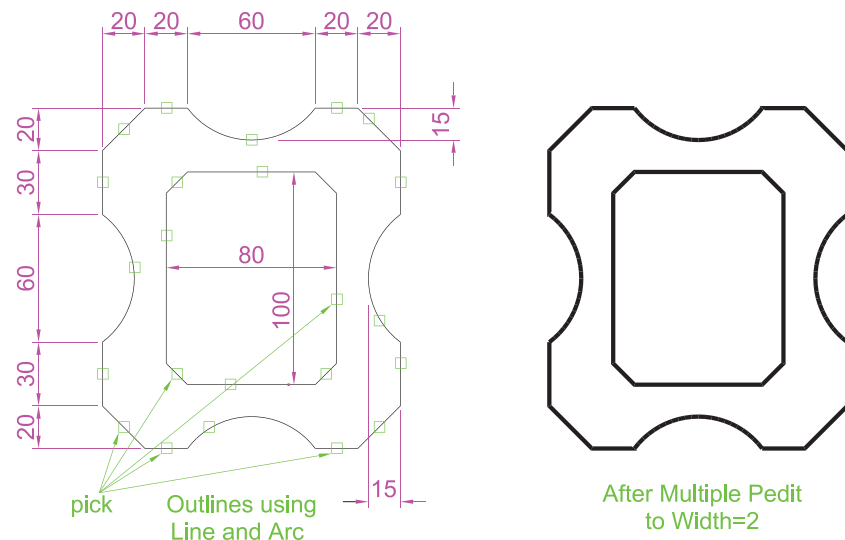

Fig. 3.44 Example – Multiple Polyline Edit
Example – Multiple Polyline Edit (Fig. 3.44)
1. With the **Polyline** tool construct the left-hand outlines of Fig. 3.44.
Continue selecting lines and arcs as shown by the *pick* boxes of the left-hand drawing of Fig. 3.44 until the command line shows:
The result is shown in the right-hand drawing of Fig. 3.44.